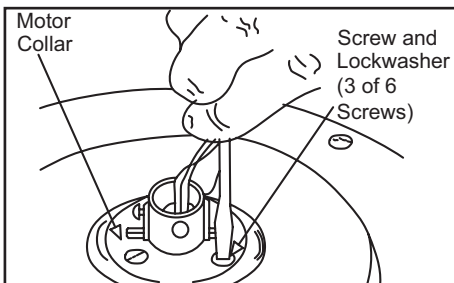

Figure 8
3. Remove three of the six screws and lock washers (every other one) securing the reinforcing plate to the top of the fan motor housing (Figure 8).